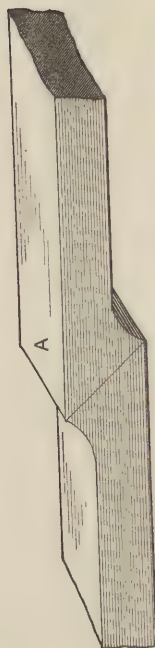

Fig. 75—Showing an Instance in which the Scarf is too Short.
If the iron is got to a proper welding heat all through its mass, there are just three things to guard against in order to get a sound job. (1) the air; (2) scale; and (3) dirt. Referring to the first, suppose the pieces are scarfed as in Fig. 74 (which is a form that beginners are very likely to make), and when the two pieces are put together, they will meet all around the edges. This simply forms a hollow pocket enclosing a certain amount of air, and also whatever amount of dirt or scale there may be upon the surfaces, and a sound weld becomes impossible. Another fault that a beginner is apt to fall into, is to make the scarf too short, as in Fig. 75, where it is seen that blows upon the top piece, *A*, will act to force it down, sliding it off the lower pieces.